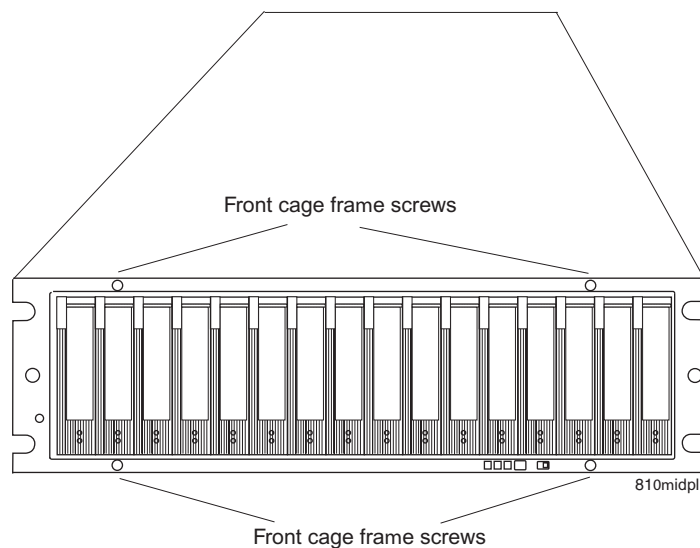

Figure 88. Front cage frame screw locations
9. Use a #1 Phillips screwdriver to loosen the four front cage frame screws on the midplane, as shown in Figure 88.
16. Tighten the four front cage frame screws. See Figure 88 on page 154.